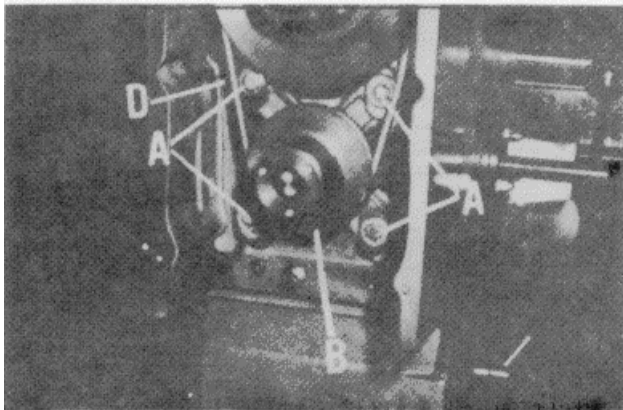

Fig. 21.
4. Remove the four cap screws (A) Fig. 21, that hold the countershaft bracket to the mill, and remove the countershaft to spindle belt (D). Remove the one step countershaft pulley (B) Fig. 21, and the countershaft bracket as a unit.